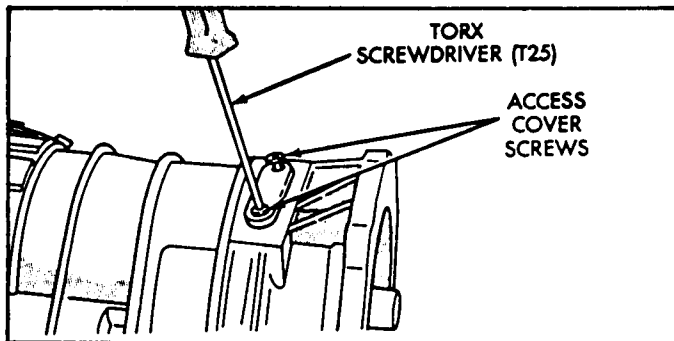

Figure 6
7. Remove the two Torx head screws that attach the access cover to overdrive case, as shown in Figure 6.
8. Remove the access cover and discard the gasket (See Figure 6).